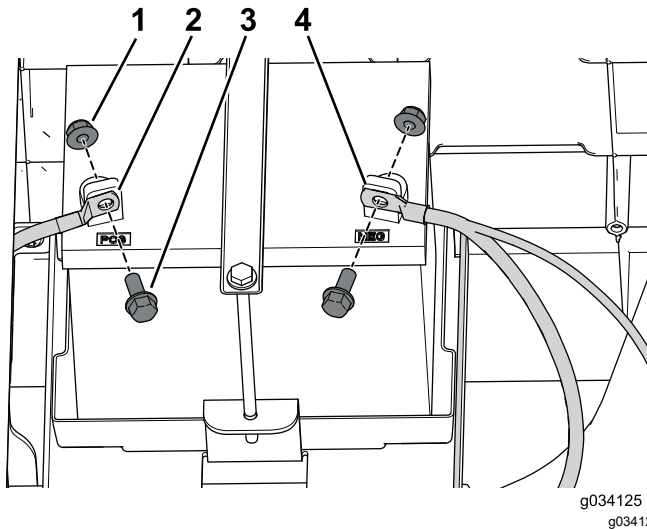

Figure 10
- Disconnect the negative (-) battery cable from the battery and then the positive (+) battery cable as shown in Figure 10.